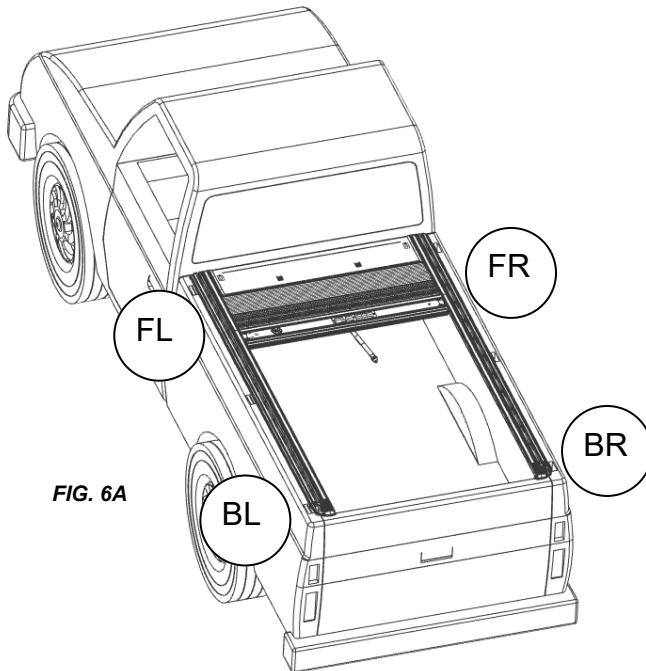

FIG. 6A
Slide the clamp extensions on the tailgate and cab end of each rail as pictured in Figure 6A-6E. Ensure that your tailgate end and cab end extensions are in the correct orientation (FIG 6D & 6E). Each clamp extension is labeled for front left (FL), front right (FR), back left (BL), and back right (BR) shown in Figure 6F. The extensions go on the corners shown in figure 6A.